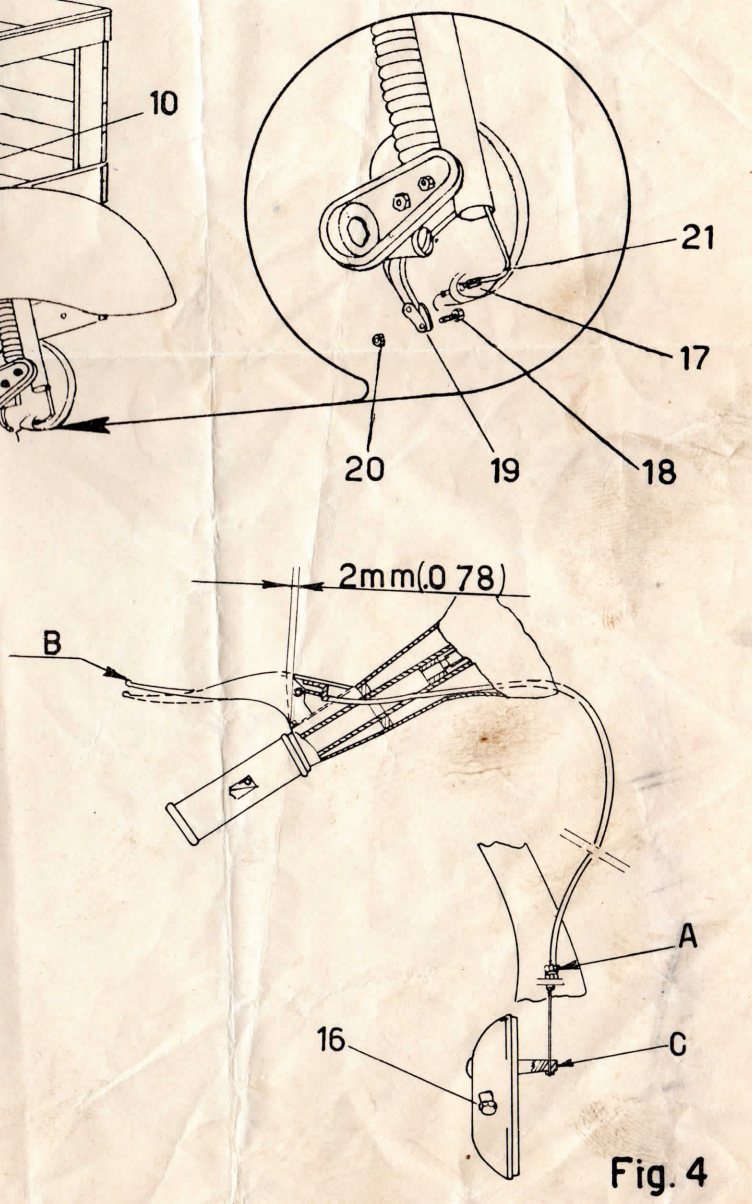

Fig. 4
d) - Remove the rubber sheath from the breather (Fig. 4, No. 16) on the clutch cover. When required, the adjustment of the clutch control is achieved operating on adjuster screw (« A », Fig. 4) on the crankcase swinging arm. The cable is to be tensioned or loosened, as the case may be, so that the clutch control lever (« B »), on the handlebars, has a play of 2 mm (0.078") before the lever (« C »), on the engine, starts operating. Wrong play in the control may cause the clutch plates burning out even in normal running conditions.